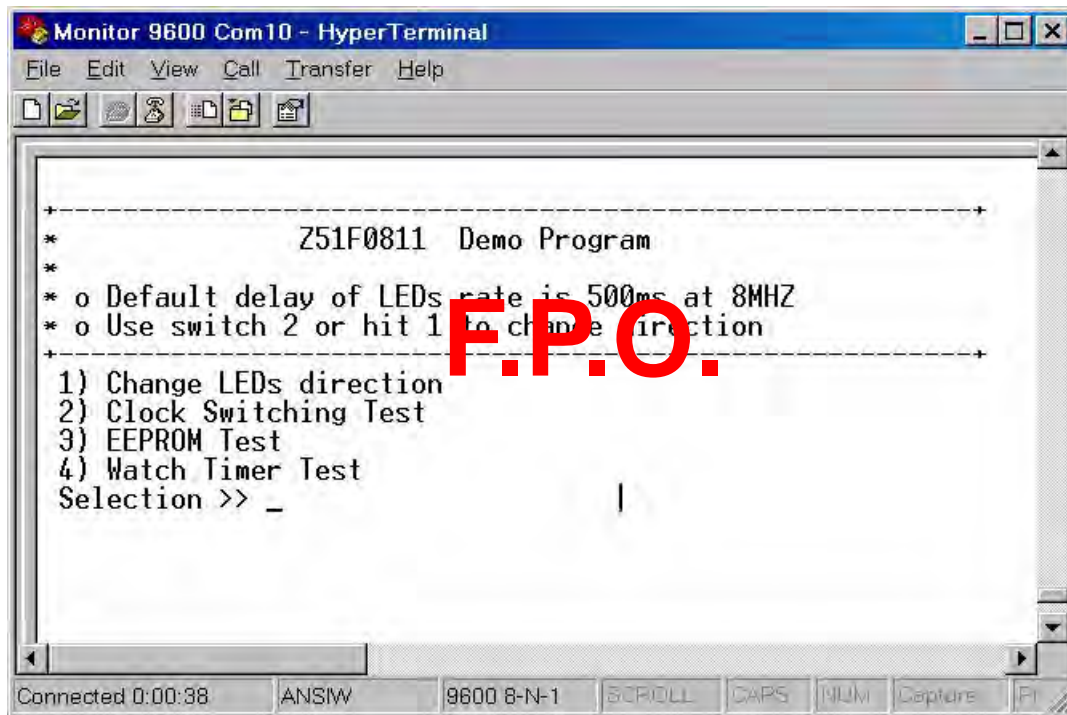

Figure 13. Demo Program Menu in HyperTerminal
3. Click the **Call** button to connect to the Z51F3220 Board. Upon connection, you should be able to see the Demo program menu shown in Figure 13.